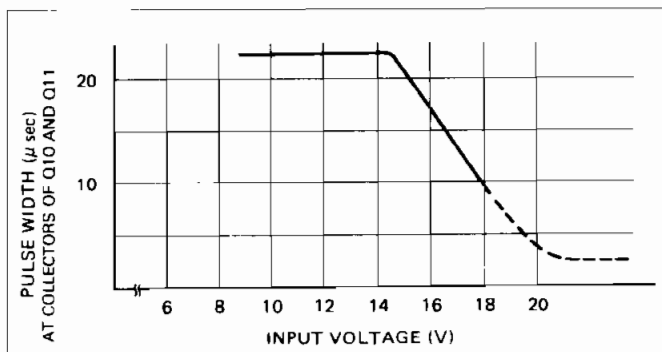

Fig. 2
When the temperature of the output transistors exceeds 80 degrees C (60 degrees C at temperature sensor (H)) or the power supply voltage from the car battery exceeds 15V, the width of the pulses generated by the pulse width control circuit (J) , (I) and (G) become narrower and the gate circuit (C) will reduce the "ON" time of the switching transistors (E) . See also figure 2 and 3.